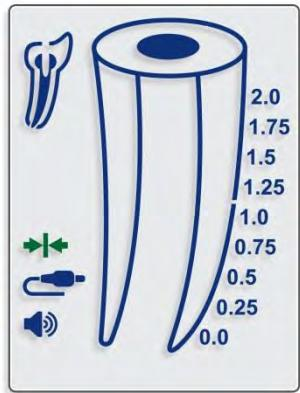

Fig. 3
- 7.3.2. “Connection” icon should appear on the display, indicating proper connection (Fig. 3).